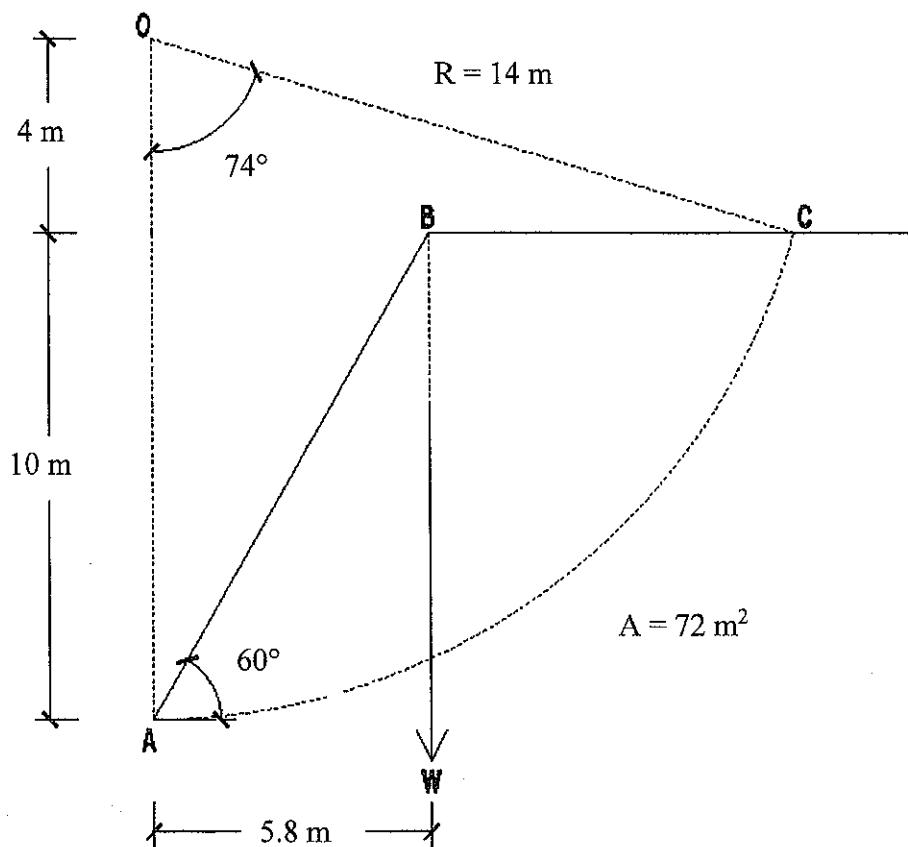

Figure B4(a) / Rajah B4(a)
- (a) Calculate the slope safety factor shown in **Figure B4(a)** using Total Stress Analysis method. Given $\gamma = 16 \text{ kN/m}^3$ and $c = 24.6 \text{ kN/m}^2$.